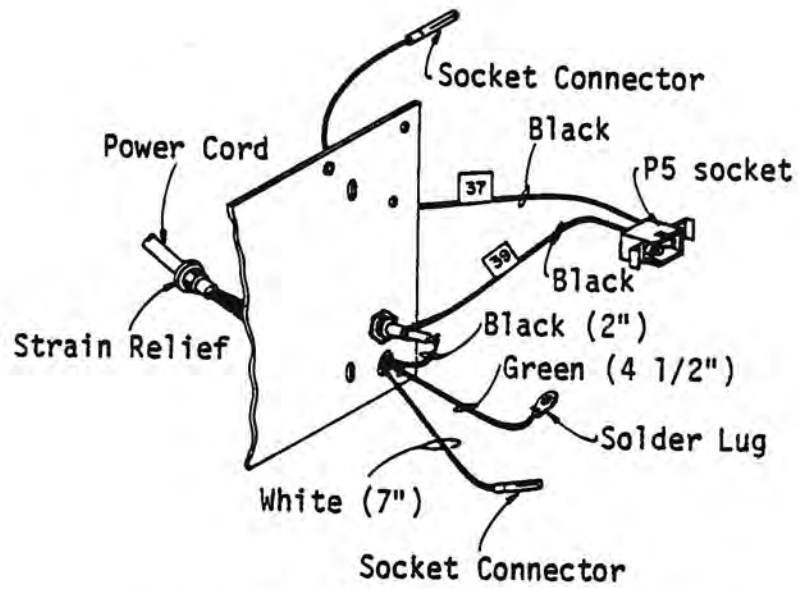

Figure 5-61 Connector Socket to Socket Housing
(2) Socket Housing
- Insert one connector socket of wire 37 into slot 9 of the socket housing (Figure 5-61).